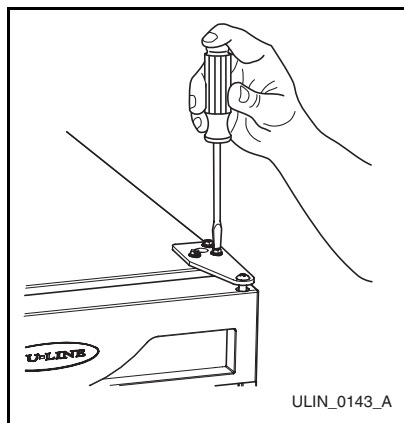

Figure 45
14. Fasten upper hinge to unit (three screws) **(Figure 45)**. Partially tighten screws until door is aligned.